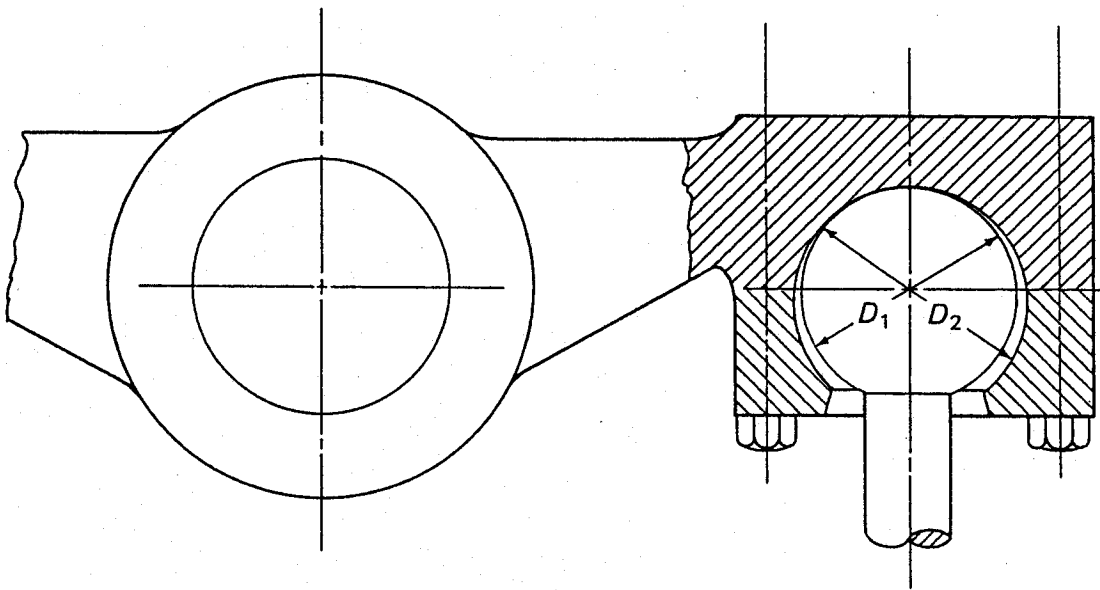

Figure 7
7. The ball end of a steel link is 10 mm in diameter. It is socketed in the hard-bronze bearing-alloy spherical seat, 10.1 mm in diameter, of a rocker arm in a valve-operating linkage as shown in Figure 7. The maximum pressure between the ball and its seat is limited to 200 MPa.